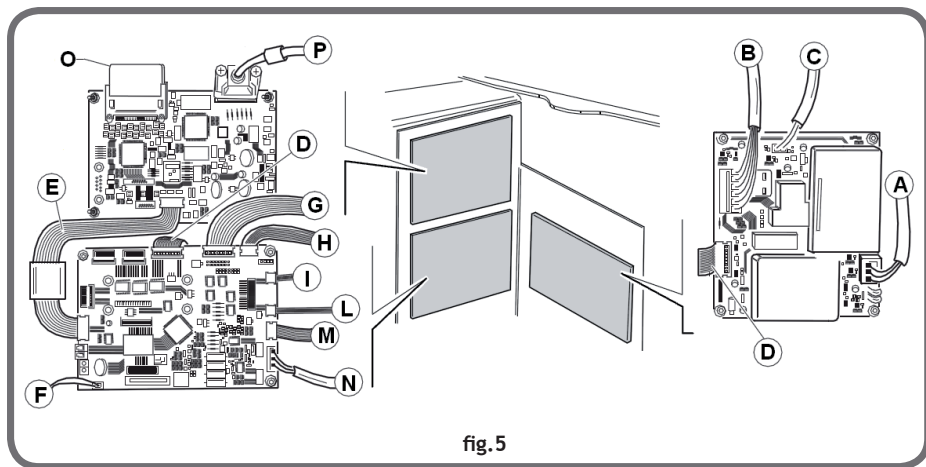

fig.5
This power supply card allows the wheel balancer to be powered with a single-phase AC mains voltage varying from 100 - 240 Volts $\pm 10\%$ (A, fig.5).
- the cable connection (D, fig.5) on the MBU card and on the PEAL 32F card;
- replace the power supply cable (D, fig.5);
This card manages the graphics on the machine and is directly connected to the CPU card via a flat cable (E, fig.5). It is equipped with a compact flash (O, fig.5) that contains all the files inherent to the graphics. This CF can be directly updated by using a PC and a compact reader.
When the card is working correctly, the LEDs LDG1, LDG2 and LDG3 are lit up with a fixed green light. If LED LDG4 lights up with a flashing red light, check the compact flash is correctly inserted. If the red light is fixed, check the connection of the flat cable on the GRFNEA and MBU32F cards (E, fig.5).
- the connection of the monitor signal cable on the connector (P, fig.5);